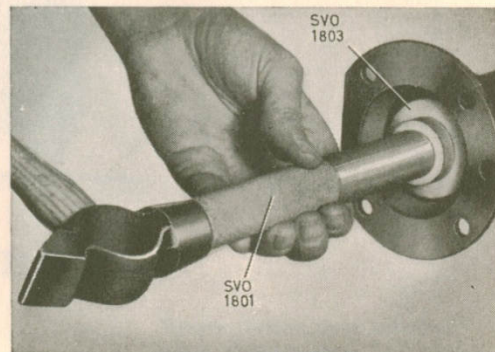

Fig. 5-4. Fitting an oil seal
4. Drive in the new oil seal. Make sure it is correctly located. Use tools SVO 1801 and SVO 1803, Fig. 5-4.